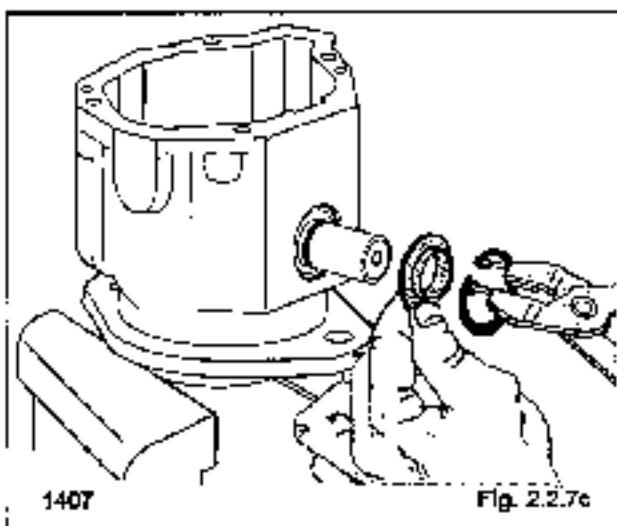

Fig. 2.2.7c
3. Install new O-rings around the O.D. of the complete bearings. Install the complete covers and secure with the retaining rings (fig. 2.2.7c).
3. Install new O-rings around the O.D. of the camplate bearings. Install the camplate covers and secure with the retaining rings (fig. 2.2.7c).